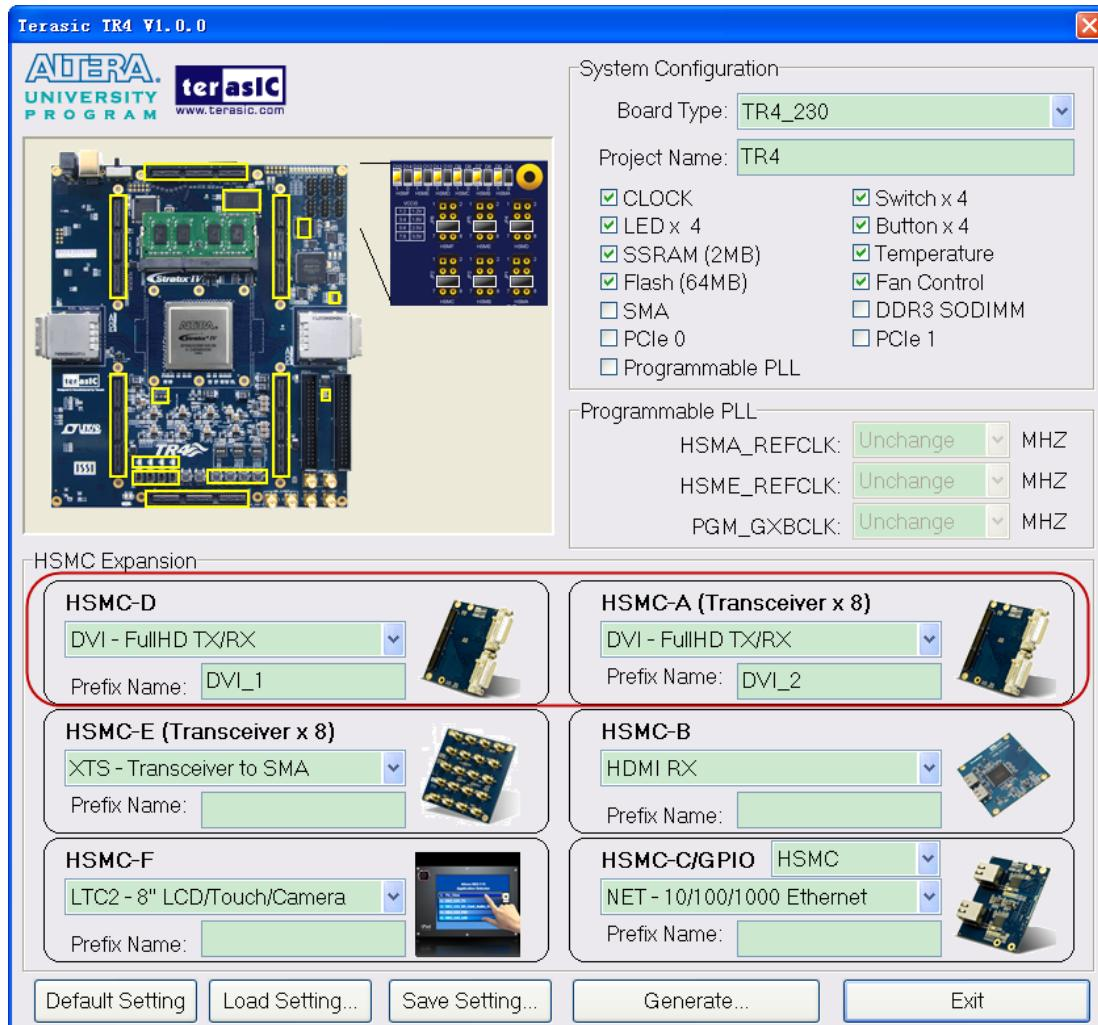

Figure 4-7 Specify Prefix Name for HSMC Expansion Board
**Note.** If the same HSMC daughter card is selected in both HSMC-A and HSMC-B expansion, a prefix name is required to avoid pin name duplication as shown in Figure 4-7, otherwise System Builder will prompt an error message.